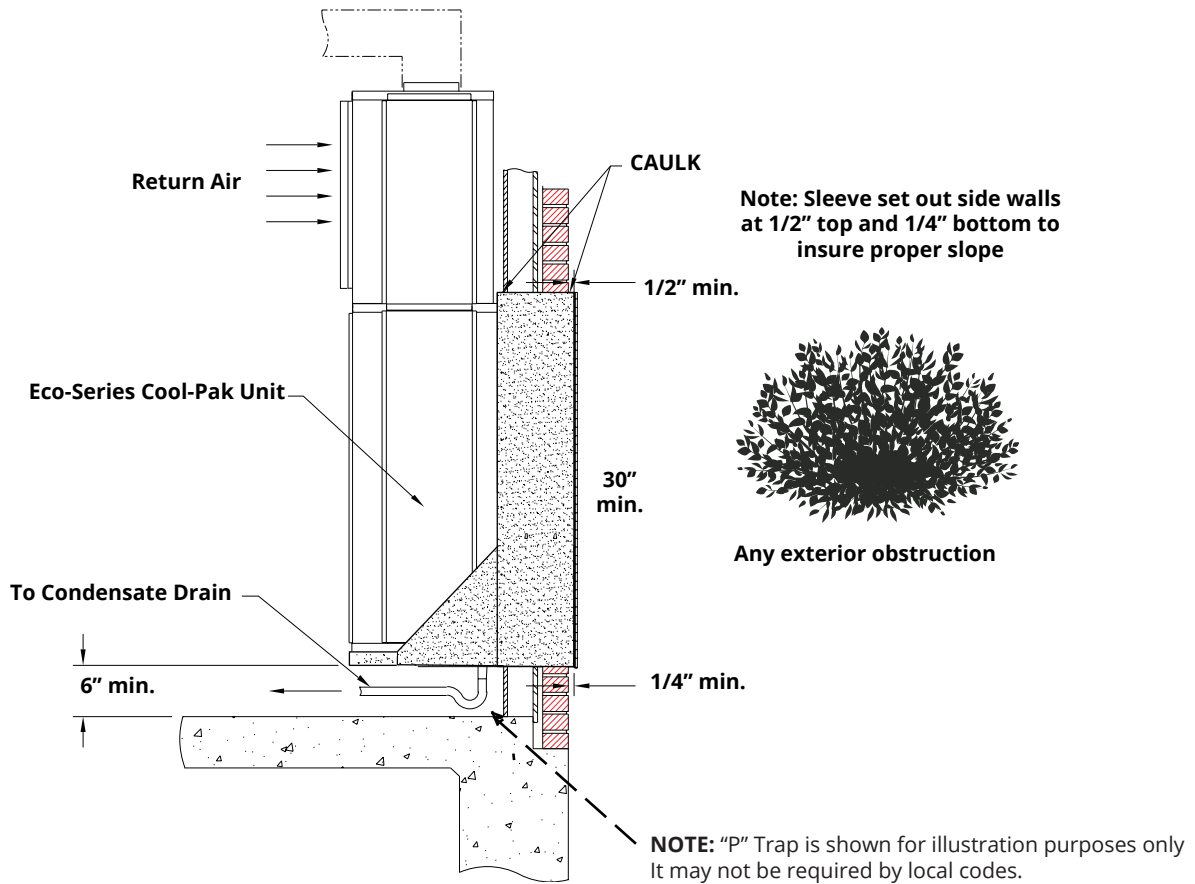

FIGURE 4
7. **Unique “Sleeve Drain” Condensate System** - (Also see Figure 4)